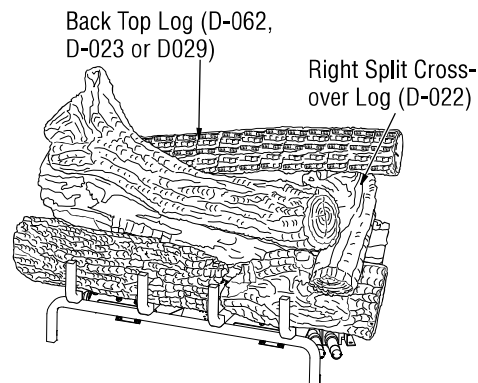

Figure 31 - Installing Back Top Log and Final Assembly
8. Find the back top log (LMF24GTA/B or LMF24MOA/B models: D-062, LMF30GTA/B or LMF30MOA/B models: D-023, LMF36GTA/B or LMF36MOA/B models: D-029). See **Figures 31, and 31A**. The left end of this log has a round hole that fits over the round peg that is on the top of the back left log. The right end of this log has a rectangular hole that fits over the rectangular peg on the top of the right crossover log.